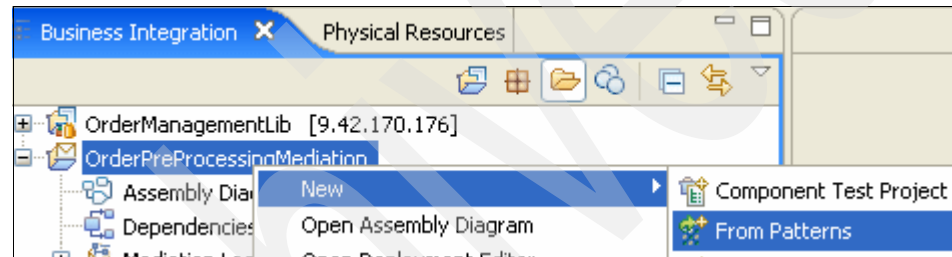

Figure 4-13 Creating service from patterns
1. Right-click the `OrderPreProcessingModule` in the Business Integration View and select **New** → **From Patterns**, as shown in Figure 4-13.